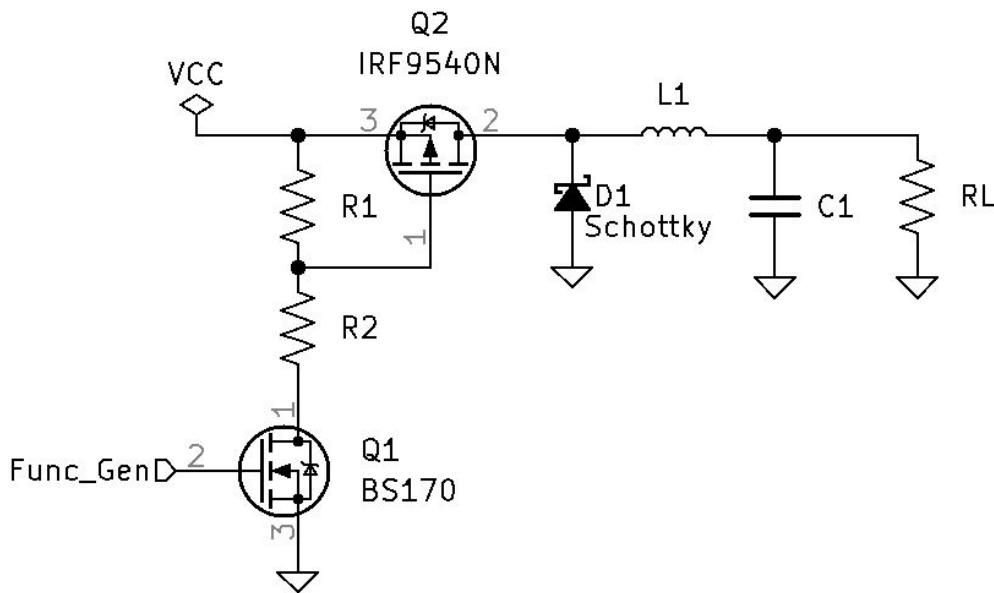

Figure 12.3: SMPS BUCK Discrete Circuit
1. See *SMPS BUCK Discrete Circuit* Figure 12.3.
- Use the previously designed Switching Circuit Figure 12.3 instead of the BJT switches.